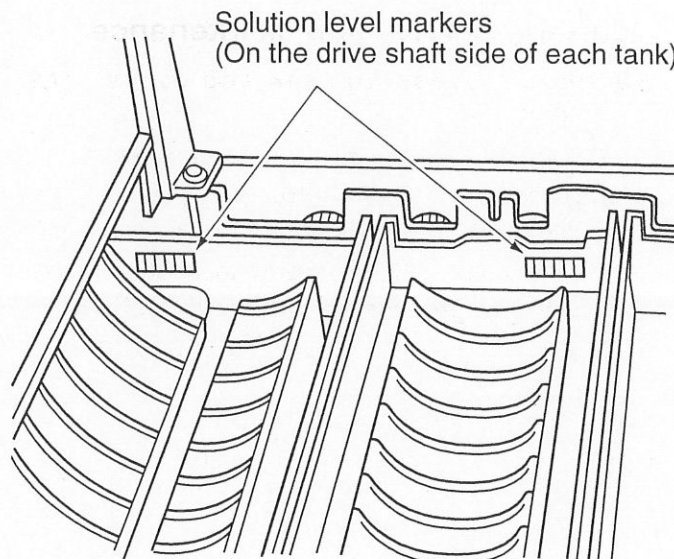

fig.44
2. If the chemical solution level does rise above the marker, open the drainage valve until the chemical solution level falls under the marker. (fig.44)